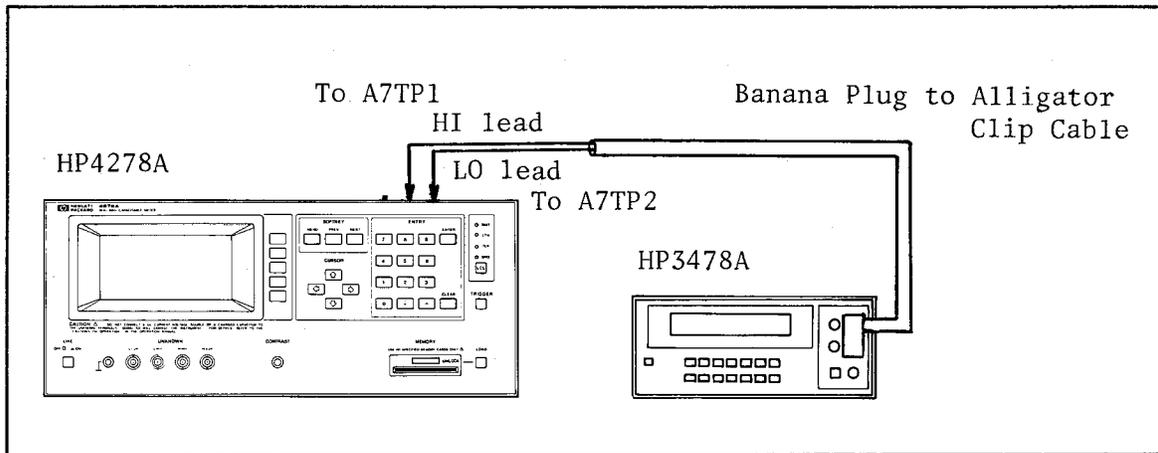

Figure 1-5. Power Supply Voltage Adjustment Setup
1. Connect the 11002A to the 3478A's INPUT. Figure 1-5 shows the equipment setup.